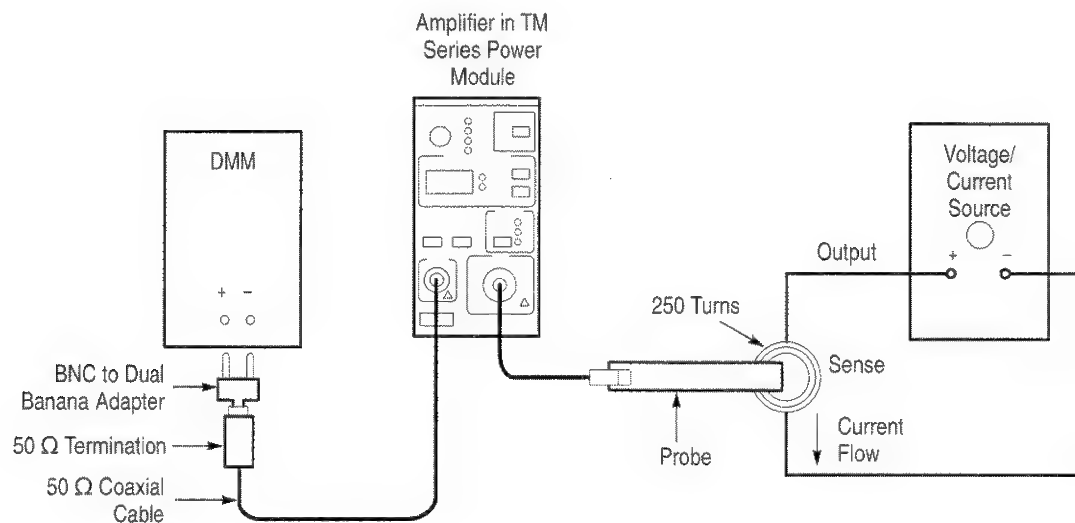

Figure 5–10: DC Accuracy Test Setup for the A6304XL
2. Connect the current loop to the voltage/current source as shown in Figure 5–10.